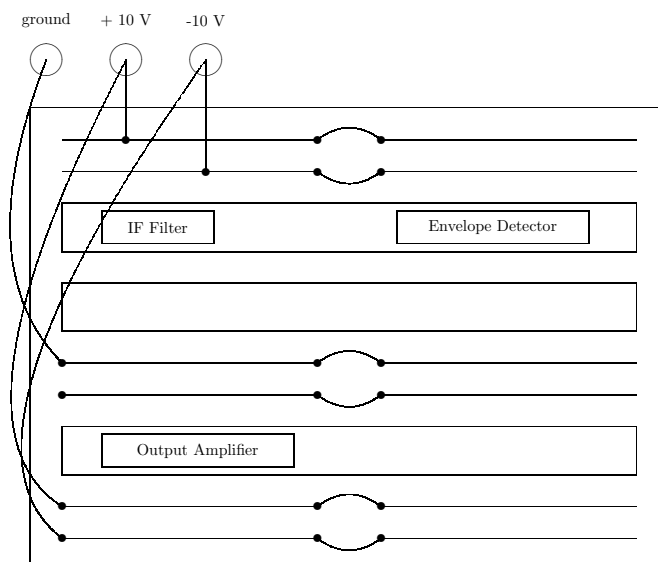
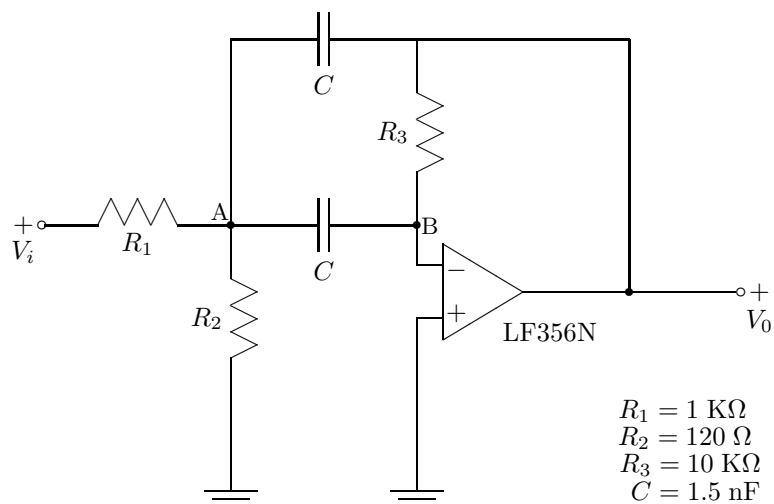
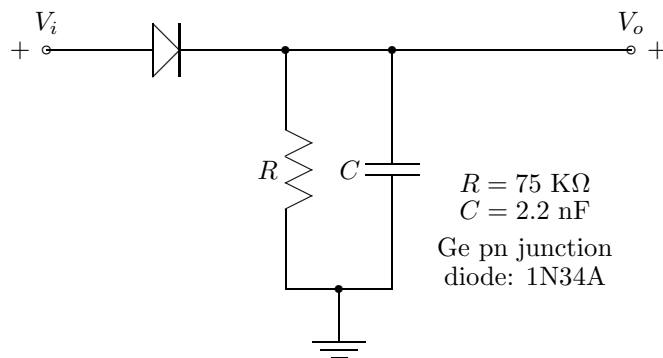
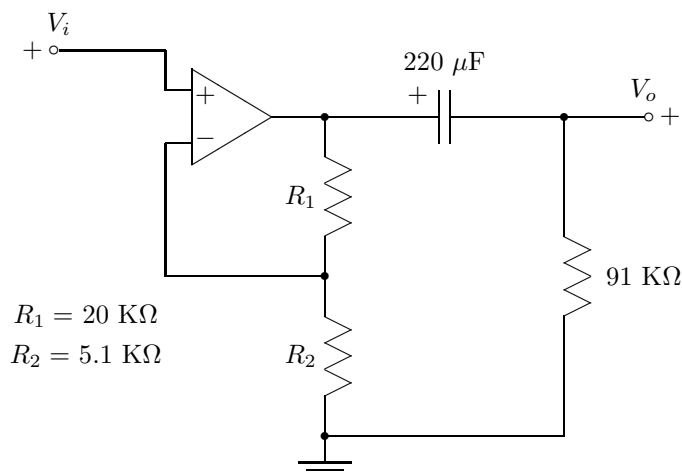

Figure 3.0.3: Protoboard Layout. Be very careful **not** to exceed ± 10 V on the supply voltages!
Figure 4.1.1: IF Filter
Figure 4.2.1: Envelope Detector
Figure 4.3.1: Gain 5 Amplifier with DC Blocking Capacitor
The first element is an integrated module and one of them has been supplied to each lab bench. The last three of these elements have been laid out on the protoboard by your GSI. In order to facilitate debugging, the protoboards have been laid out in the manner shown in Fig. 3.0.3. Each op-amp is installed so that the circle indent on its face is located on the left side of the chip when viewing the layout. The various subsystems have not been interconnected. You will be asked to do this at the appropriate time. *Even though your GSI has pre-built the major circuit elements, so that you can focus on the systems aspects in the lab, it is still your responsibility to double check everything.* If you have problems, request help from your GSI.
The circuit elements shown on the protoboard in Fig. 3.0.3 together operate as a bandpass (IF) filter, an AM demodulator (envelope detector), and an output amplifier that will be used to drive a speaker. When the input to the IF filter is an AM signal operating within the passband of the filter,
- Verify the construction of the IF filter shown in Fig. 4.1.1; it should be located on the protoboard in the location indicated in Fig. 3.0.3. At this time, do NOT connect this circuit to any of the other components on the protoboard.
- Using the oscilloscope and function generator, measure and record the *magnitude* of the frequency response function $|H(j\omega) = \frac{V_o(j\omega)}{V_i(j\omega)}|$ of the IF Filter at the thirteen (13) frequencies given below. In each case, use a sinusoid with a 600 mV peak-to-peak amplitude. Note that you are not asked to record phase data.
- (a) Verify the construction of the envelope detector circuit shown in Fig. 4.2.1, which should be found on the protoboard in the location indicated in Fig. 3.0.3. At this time, do NOT connect this circuit to any of the other components on the protoboard.
- (a) Verify the construction of the amplifier circuit shown in Fig. 4.3.1, which should be found on the protoboard in the location indicated in Fig. 3.0.3. At this time, do NOT connect this circuit to any of the other components on the protoboard.
3. OUT/IF connected via a BNC (with clips on one end) to the input, V_i of your IF filter (see Fig. 4.1.1).
- In the output amplifier of Fig. 4.3.1, replace the 20 Ω resistor with a 40 Ω . This will roughly double the gain.
- (a) Complete the **Measured** column of Table 5.1 using your In-Lab data from Table 4.1. Complete the **Computed** column by evaluating the magnitude of the frequency response function, $|H(j2\pi f)|$, for the IF Filter of Fig. 4.1.1 at the indicated frequencies. Recall that you computed this frequency response function in the Pre-Lab.
- Compute the frequency response function $H(j\omega)$ of the amplifier in Fig. 4.3.1. Compare the measured and calculated voltage gain at a frequency of 5 KHz. **Note:** They will NOT be exactly the same.